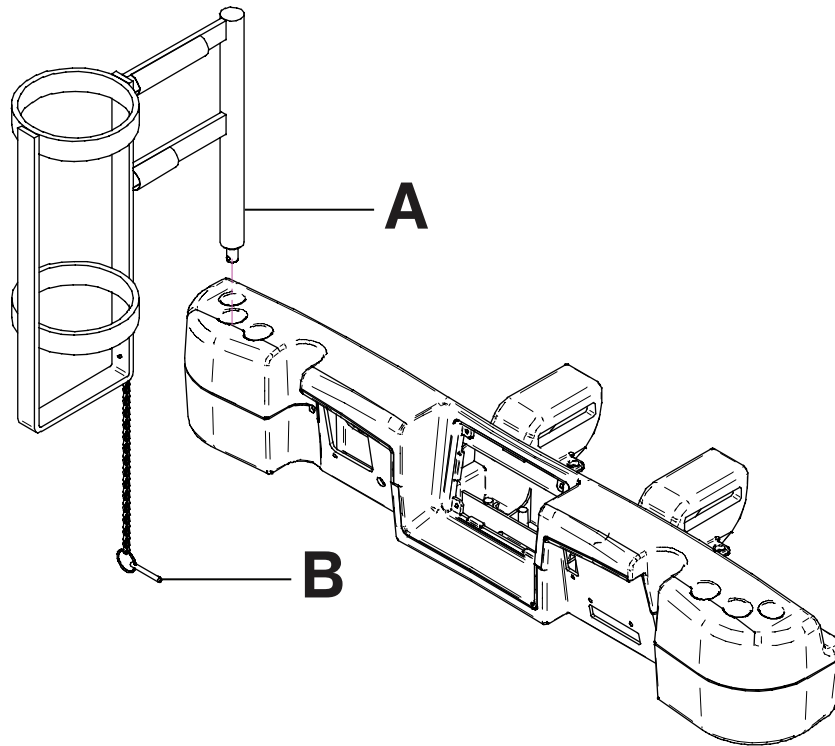

Figure 116 – Upright oxygen bottle holder
1. Insert the support bar into the socket at the head end or foot end of the product on either side (A) (Figure 116).
2. Insert the security chain pin (B) through the support bar hole to secure the bottle holder to the product.